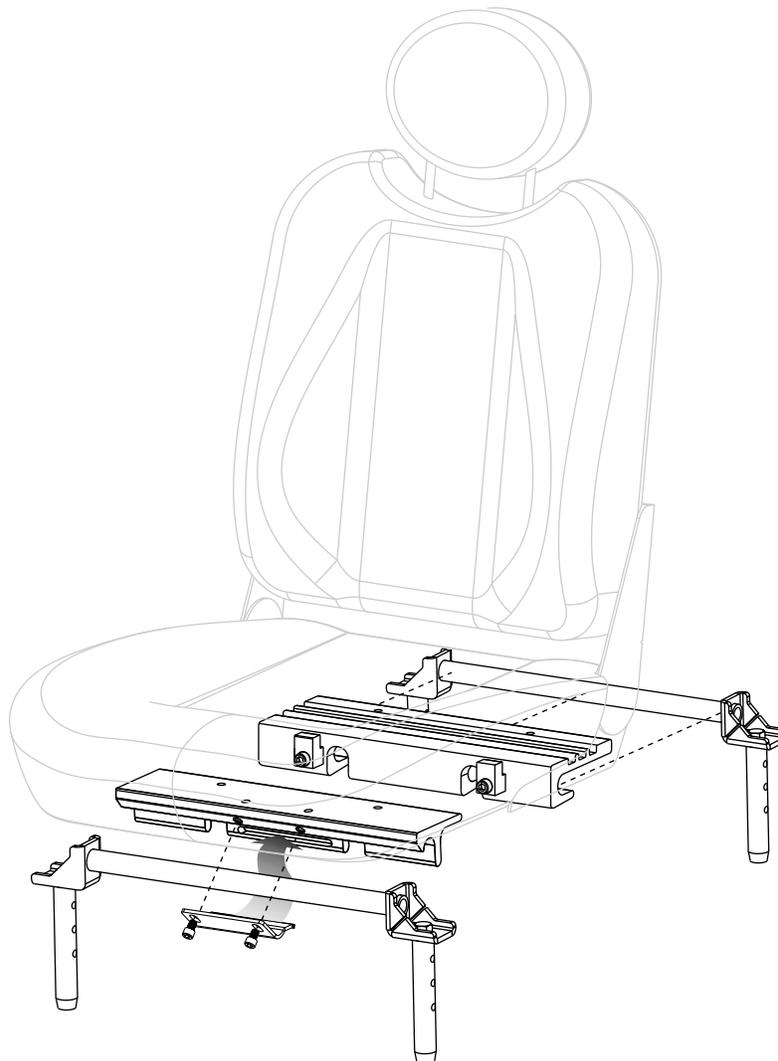

Figure 7. Universal Mounting System
2. Remove the front extrusion clamp from the front extrusion. See figure 7.